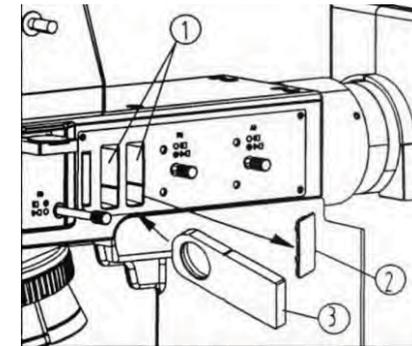

Fig.25
- The use of color filters can make the background light of the image more suitable to improve the contrast of the image. (See Fig.25)
- ★ When the color filter is not used, the attached dust cover shall be covered. When using the external color filter, now take off the dust cover ② on the reflection illuminator socket 1, and insert the color filter insert ③ into the slot of the lighting system face forward in the direction shown in the figure. (See Fig.25)